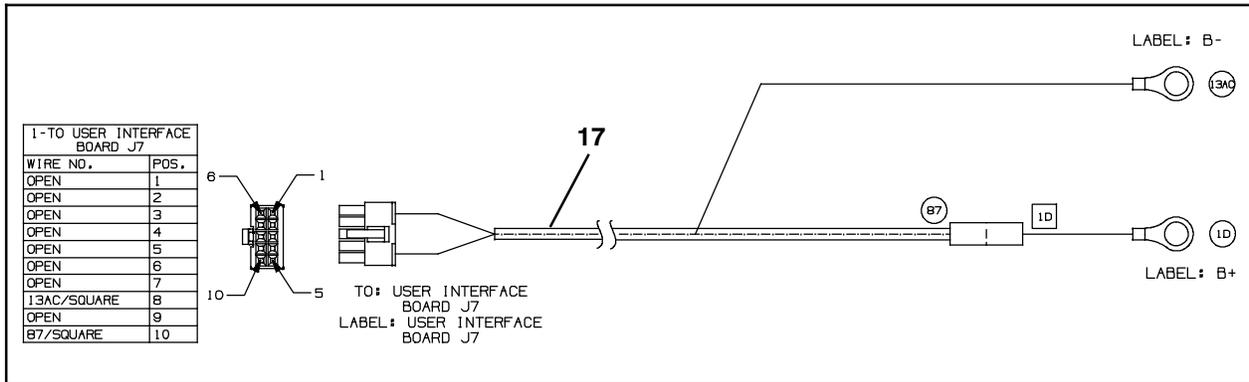
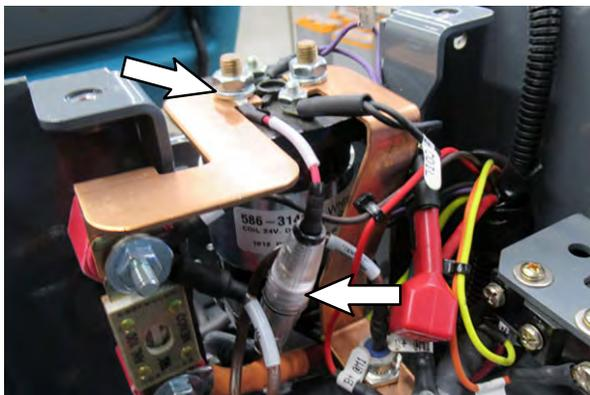

FIG. 13
FIG. 15
7. Connect the UI power electric harness (17) B- lead to the main contactor B- standoff. (Fig. 13/ Fig. 16)
6. Connect the UI power electric harness (17) lead with the fuse to the main contactor B+ terminal. (Fig. 13/ Fig. 15)